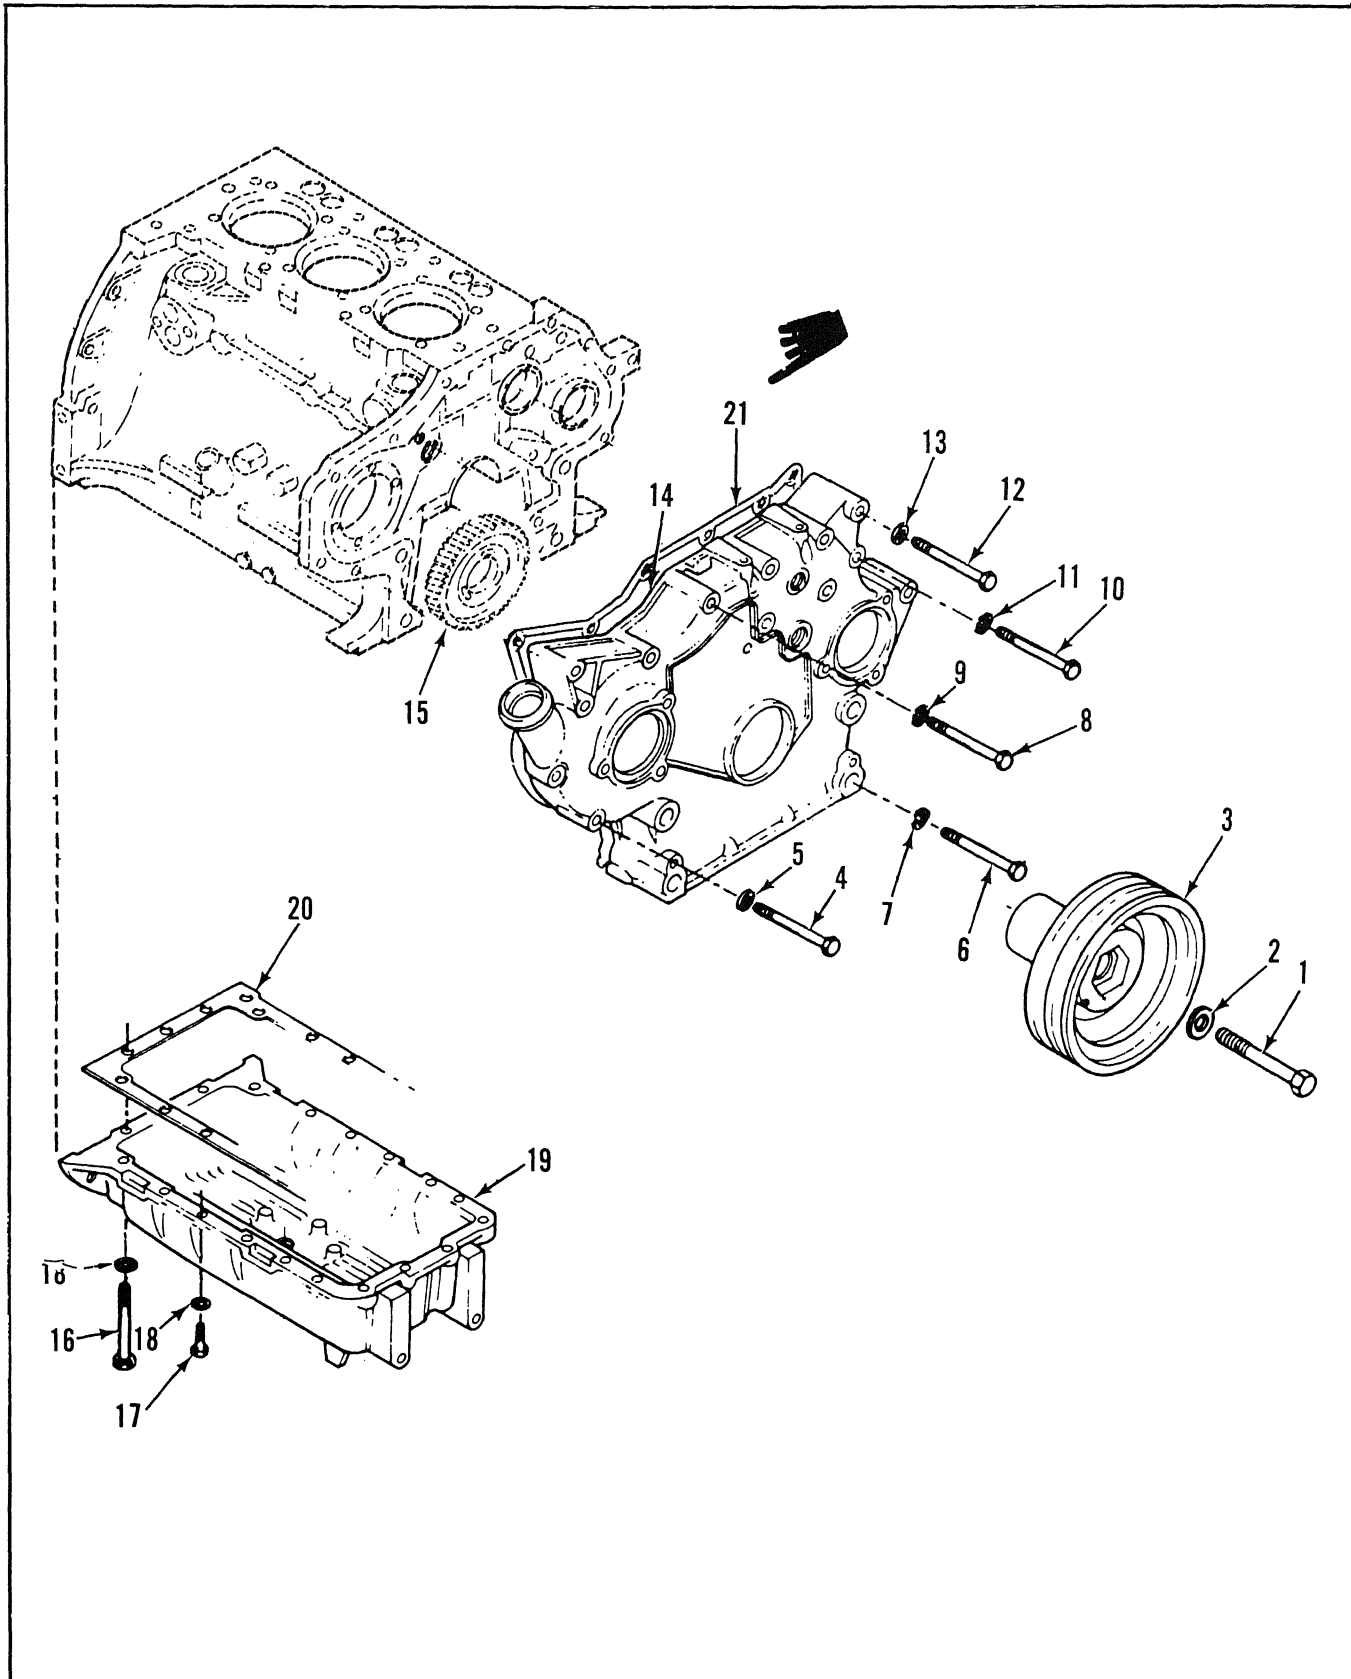

Figure 6-1. V-Belt Pulley, Front Cover and Oil Sump, Removal/ Installation.
- (23) Install oil sump (19, figure 6-1) and gasket (20) with bolts (16), (17) and washers (18).